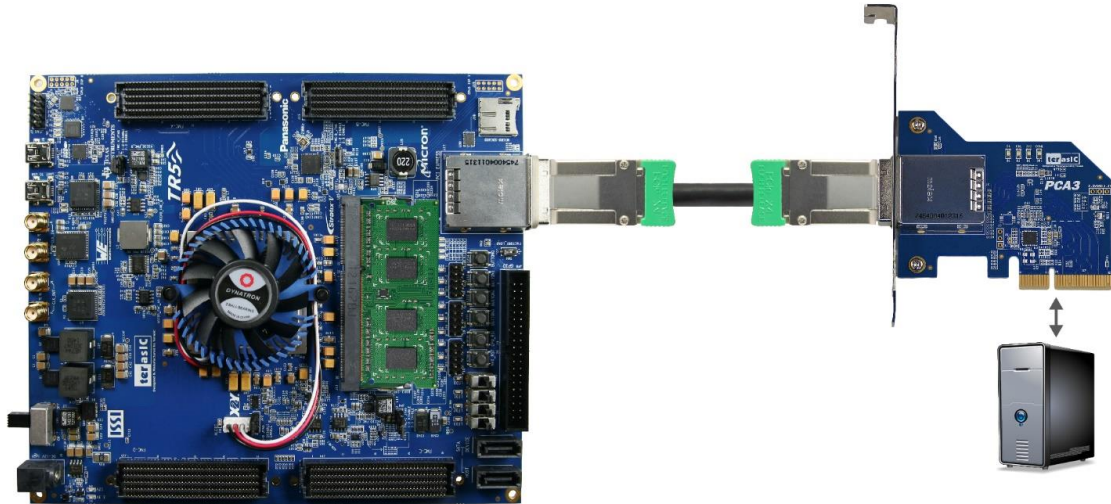

Figure 4-2 FPGA board connect to PC
2. Plug the PCIe adapter card(**PCA3**) into the PCIe slot on the PC motherboard. Use the PCIe cable to connect to the TR5 PCIE connector and the **PCA3** (See **Figure 4-2**)